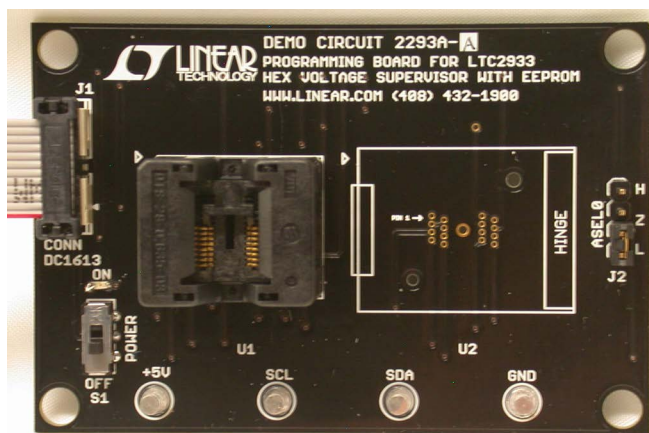

Figure 4. DC2293A-A with Open Socket
2. Connect the DC1613 USB controller to your PC. Plug the ribbon cable into connector J1 of the DC2293A programming board. See Figure 4.